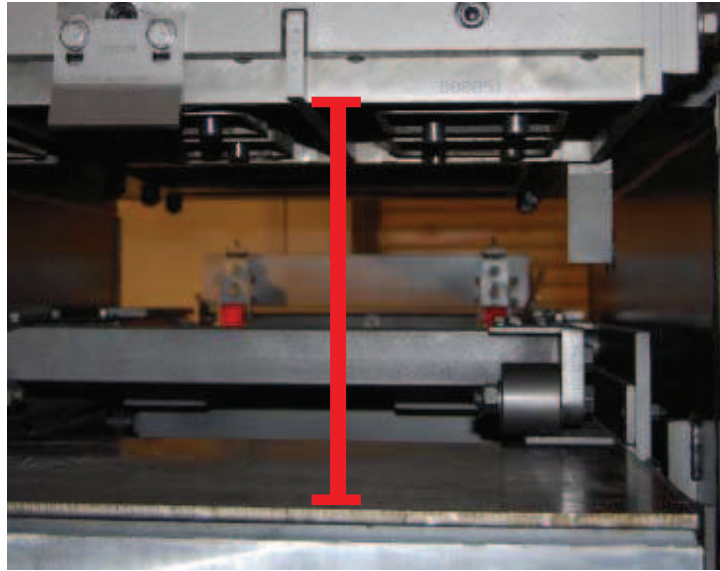

Figure 25
- Measure the distance from the top of the pallet table (with a pallet on it) to the bottom of the mold. This distance needs to be equal to the product height plus at least $\frac{1}{2}$ ". Add or subtract stripper beam spacers to make up the difference. Figure 25